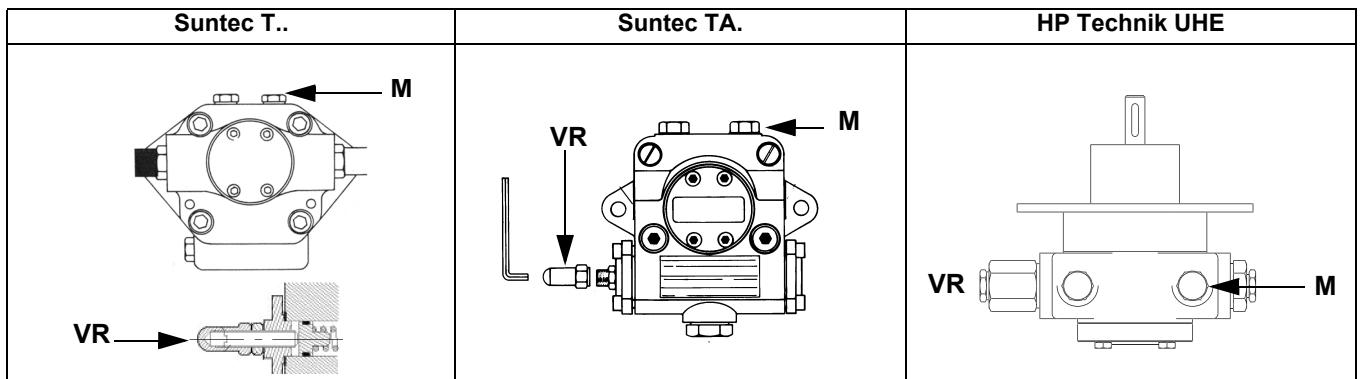
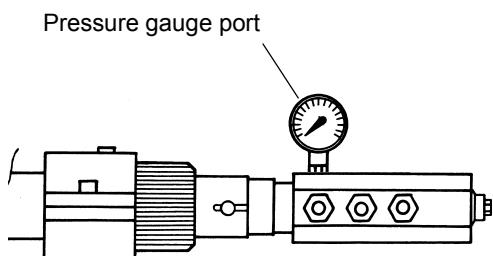

Fig. 9
Fig. 10
- bleed the air from the **M** pressure gauge port (Fig. 9) by loosing the cap without removing it, then release the contactor.
- Only if necessary, adjust the supply pressure as follows (see related paragraph); insert a pressure gauge into the port shown on Fig. 10 and act on on the pump adjusting screw **VR** (see Fig. 9) as to get the nozzle pressure at 20bar (Monarch or Fluidics nozzles - see page 40-38).